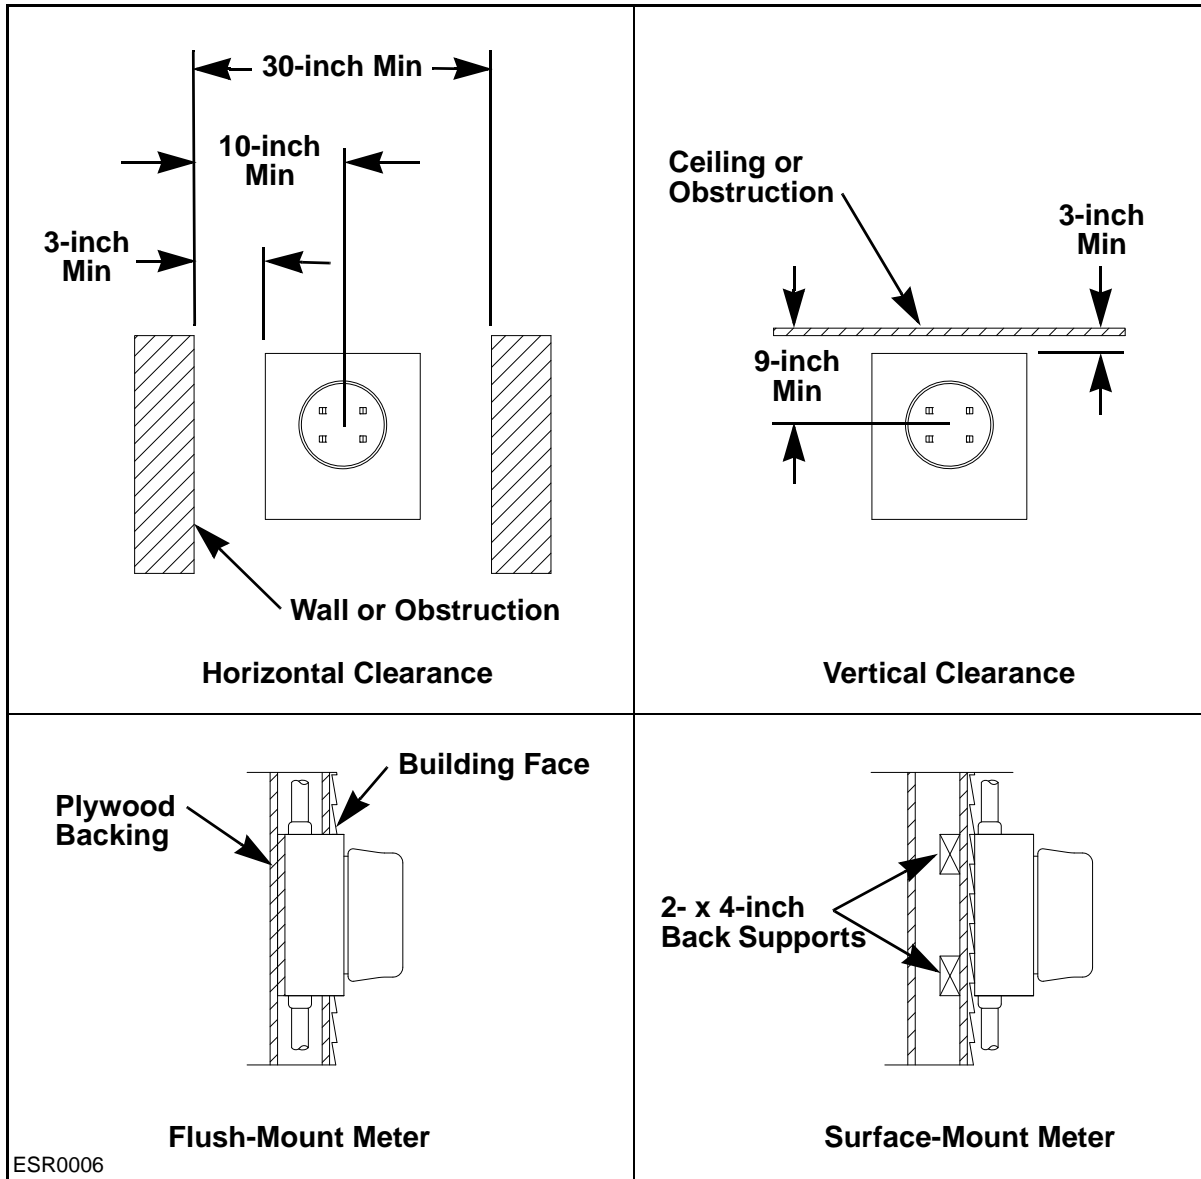

Figure 5-2: Meter Clearances for Single-Meter Installations
- The minimum horizontal clearance from the center of the meter to a wall or obstruction is 10 inches. See **Figure 5-2**.
- The building face must not extend beyond the face of the meter box. See **Figure 5-2**.
- A surface-mount meter must have a minimum of two 2- x 4-inch back supports. See **Figure 5-2**.